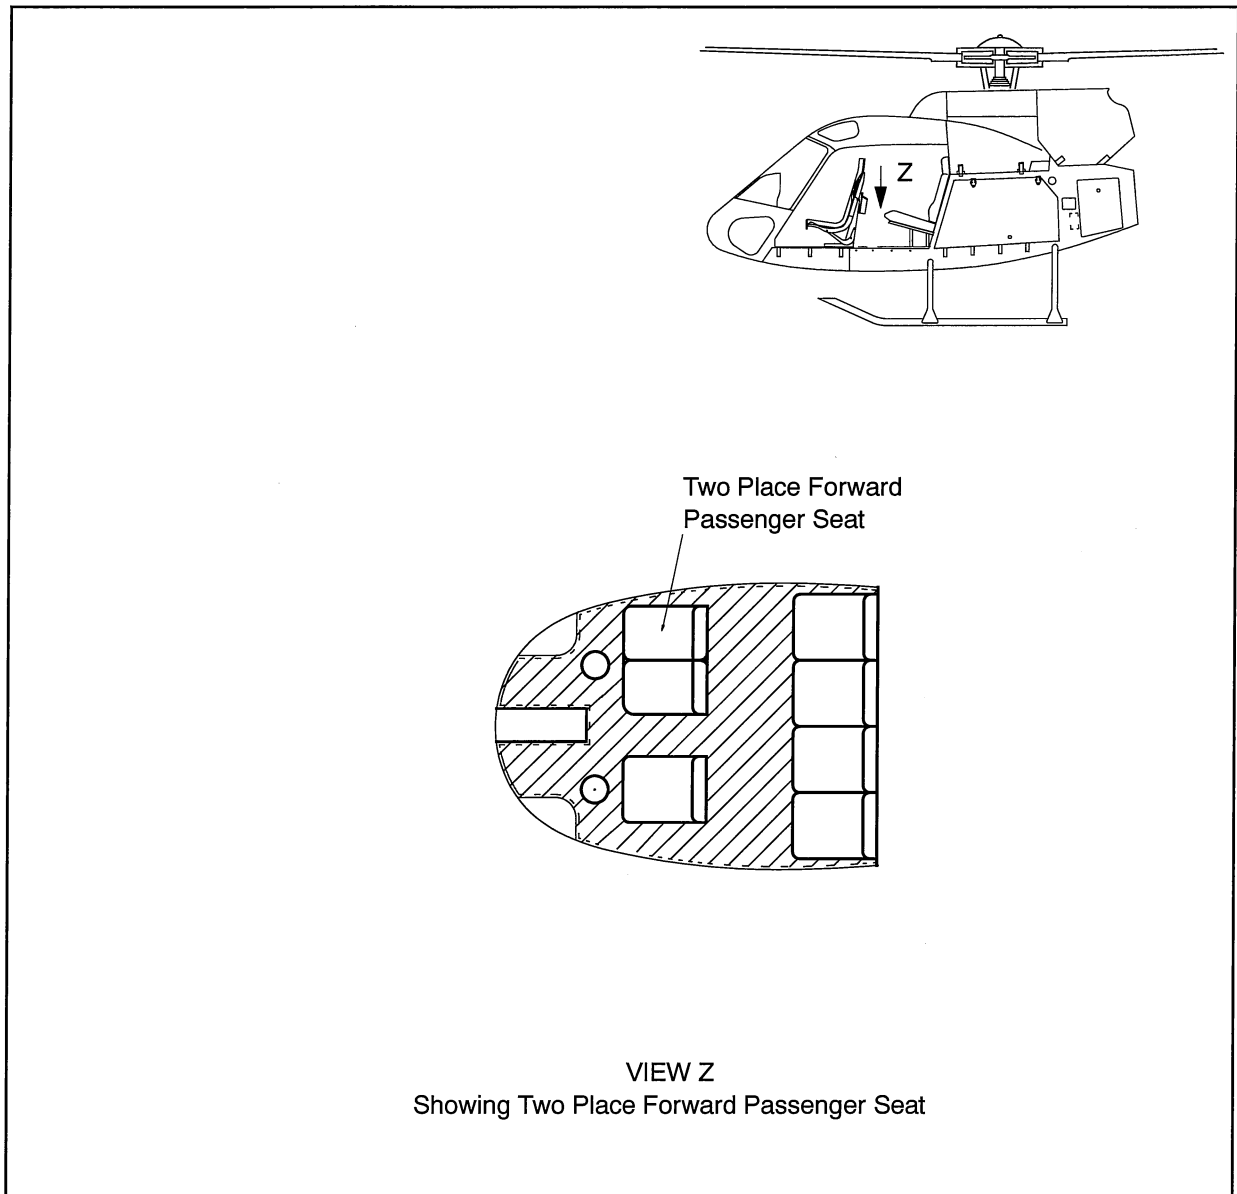

Figure 1 General Layout
- A. The Two Place Forward Passenger Seat is a composite-structure double seat that is secured to fixed seat rails on the cabin floor. When the two-place seat is mounted in lieu of the right hand pilot's seat the aircraft can carry seven persons. To provide additional leg room for the center passenger, the complete center console structure is removed as part of the Left-Side Pilot Configuration. Refer to Figure 1 for General Layout.